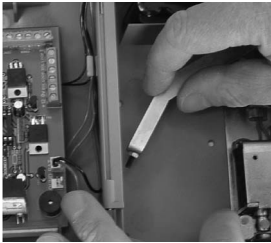

Fig 3.4
- Carefully move the swing arm to its lowest position and lock in position by holding down the arm retention clip and clipping it over the end of the swing arm (fig 3.4, 3.5).
Remove the two screws in the side of the lid holding it closed. Open the unit taking care not to damage any of the wiring. Carefully return the swing arm to its lowest position and lock in place by holding down the arm retention clip and clipping it over the end of the swing arm (fig 3.4, 3.5).